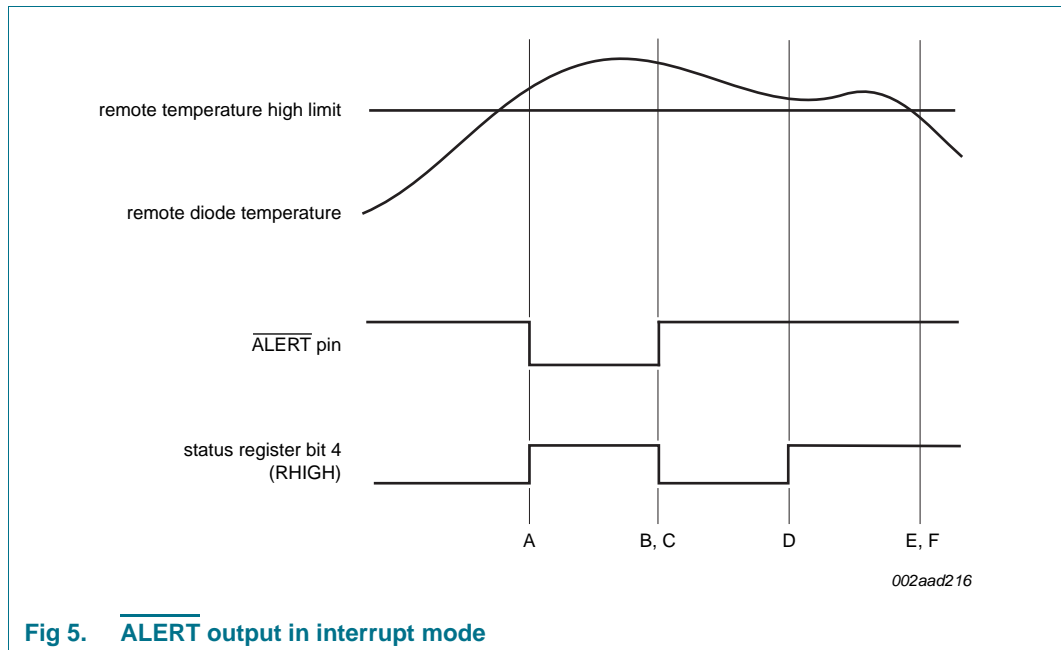

Fig 5. **ALERT** output in interrupt mode
In the interrupt mode, the  $\overline{\text{ALERT}}$  output is used to provide an interrupt signal that remains asserted until the interrupt service routine has elapsed. In the interrupt operating mode, a read of the Status register will set the  $\overline{\text{ALERT}}$  mask bit 7 of the Configuration register if any of the temperature alarm bits of the Status register is set, with exception of BUSY (D7) and OPEN (D2). This protocol prevents further  $\overline{\text{ALERT}}$  output triggering until the master device has reset the  $\overline{\text{ALERT}}$  mask bit at the end of the interrupt service routine. The Status register bits are cleared only upon a read of the Status register by the serial bus master (see Figure 5). In order for the  $\overline{\text{ALERT}}$  output to be used as an interrupt, the ALERT Configure bit D0 of the ALERT Mode (AM) register must be set LOW (POR default).